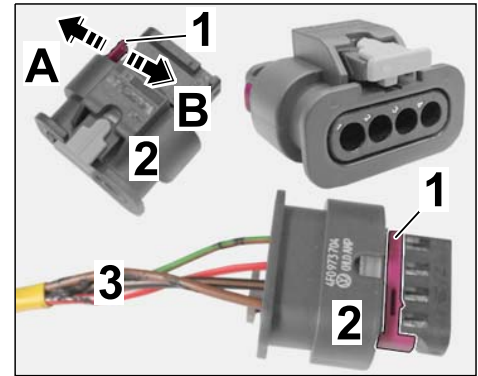

Figure 24
3.4.1 Release the socket housing (4-pin, see parts list) (⇒ *Figure 24 -A -*).
3.4.3 Lock the socket housing (4-pin, see parts list) (⇒ *Figure 24 -B -*).